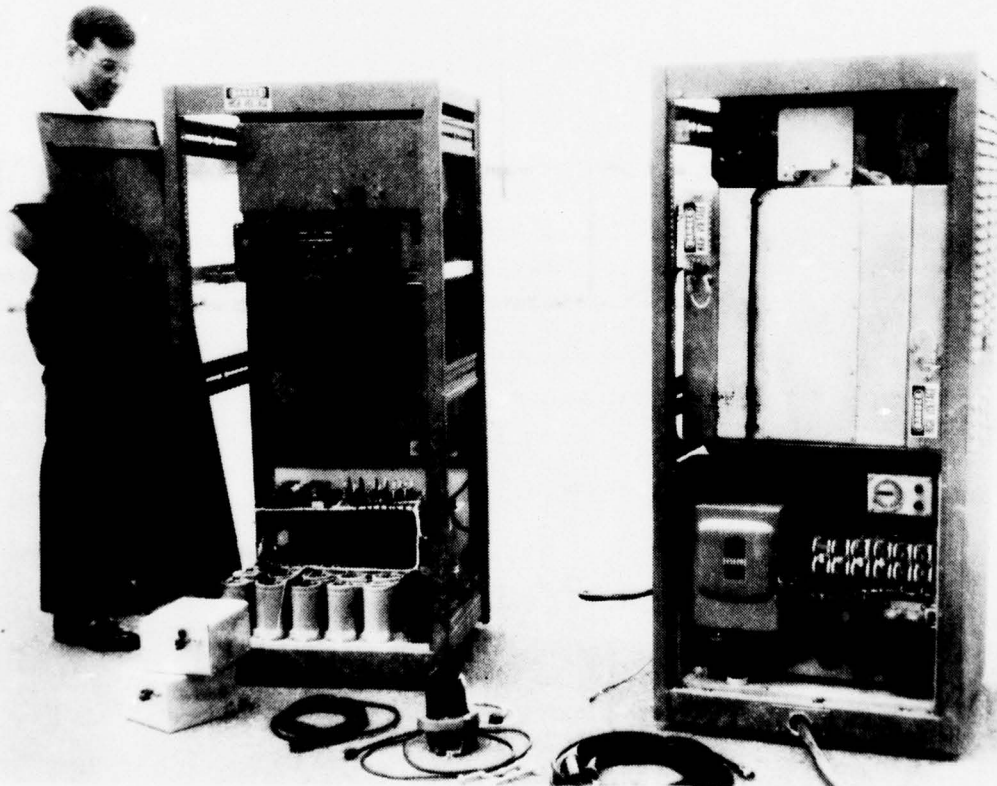

Figure 3. PUP Equipment Racks, Rear View
- B. See figure 3, remove the back and both side panels from the rack containing the damped-sine generator and the PUP preamplifier. The side panels are removed by removing the screws at the top of the panel and sliding the panel up.
- C. See figure 3, remove the back and right side (facing front of rack) of the rack containing the power amplifiers.